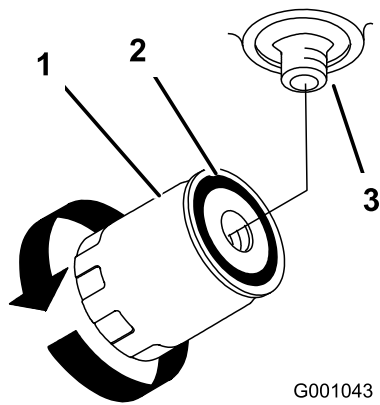

Figure 83
4. Remove the old filter and wipe the filter adapter gasket surface clean (Figure 83).
6. Install replacement hydraulic filter onto the filter adapter. Turn the oil filter clockwise until the rubber gasket contacts the filter adapter, then tighten the filter an additional 1/2 turn (Figure 83).